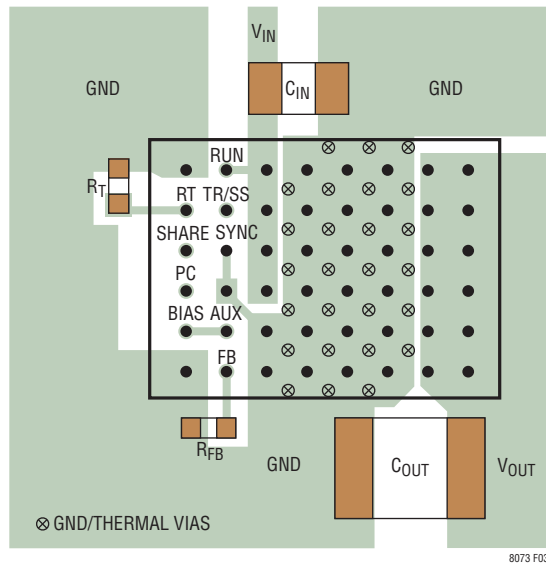

Figure 3. Layout Showing Suggested External Components, GND Plane and Thermal Vias
operation with a haphazard or poor layout. See Figure 3 for a suggested layout. Ensure that the grounding and heat sinking are acceptable.
6. Use vias to connect the GND copper area to the board's internal ground planes. Liberally distribute these GND vias to provide both a good ground connection and thermal path to the internal planes of the printed circuit board. Pay attention to the location and density of the thermal vias in Figure 3. The LTM8073 can benefit from the heat-sinking afforded by vias that connect to internal GND planes at these locations, due to their proximity to internal power handling components. The optimum number of thermal vias depends upon the printed circuit board design. For example, a board might use very small via holes. It should employ more thermal vias than a board that uses larger holes.